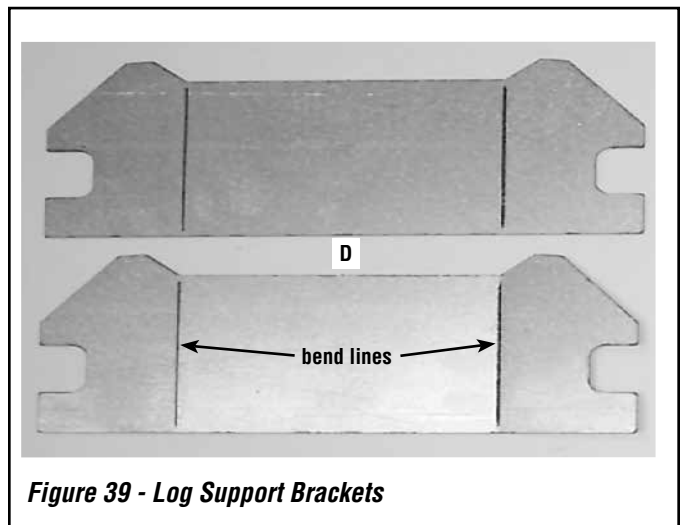

Figure 39 - Log Support Brackets
1. Remove the two log support brackets (D) from the box and bend the ends of the brackets 90 degrees at the bend lines. See *Figures 39 and 40*.